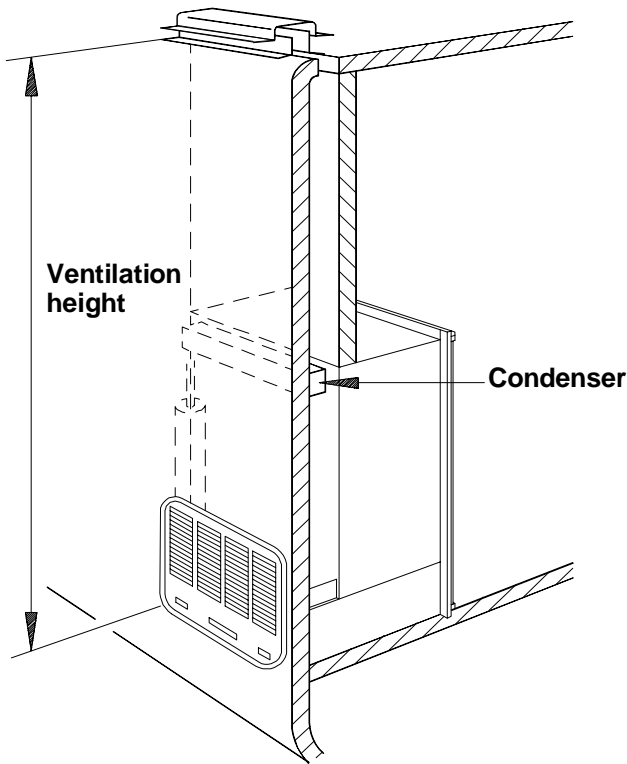

FIG. 9
The method of installation is shown in FIG. 9. It is essential that all maximum or minimum dimensions are strictly maintained as the performance of the refrigerator is dependent on adequate flow of air over the rear of the refrigerator.
**NOTE:** Clearance "N" is the distance between the bottom of the lower vent to the roof material. For ventilation height, see table **VENTILATION HEIGHTS** See Figures 9, and 10.